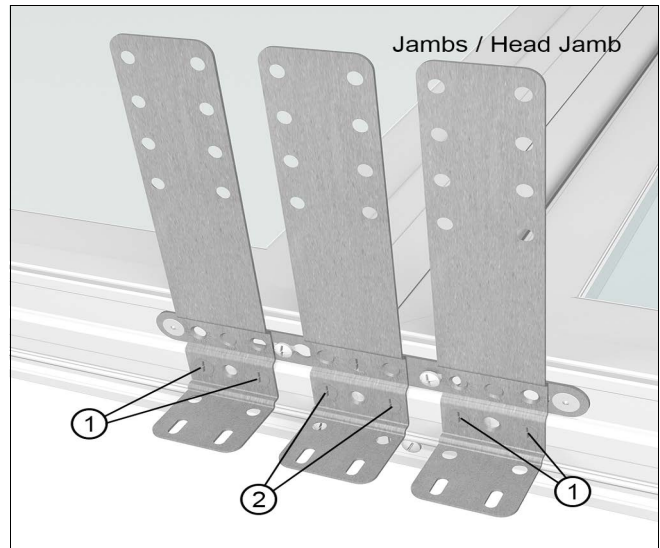

Figure 5 Jamb/Head Jamb bracket placement
5. For 1/2" MRF Assemblies: For factory mulls, remove existing shipping screw in the reinforcement before installing the brackets. Install jamb and head jamb brackets. Apply 90-degree bent structural brackets within 1-1/8" (29) of either side of the mull with 5/8" screws on both ends. Install a third 90-degree bent structural bracket into the mull end with 2" screws on both ends. Apply a third bracket between the first two centered on the mull. Follow the instructions sent with the brackets. See Figure 5.